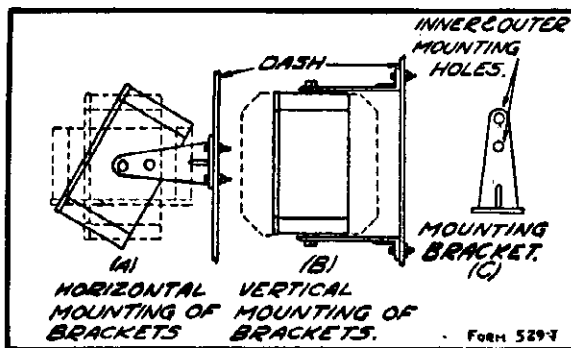

Fig. 5—Method of Mounting Speaker
The speaker-"B" eliminator is mounted on the back of the dash by means of two brackets, as shown in Fig. 5. Usually the space available will govern the location of the speaker and position of it on the mounting brackets. However, the matter of acoustics should be given careful consideration. One of the most desirable positions from the standpoint of
acoustics is that shown by the solid lines in Fig. 5 (A). In this position the sound waves travel in the most direct lines toward the listener. After the
After the position of the speaker is decided on, drill the four $\frac{5}{16}$ " holes required for the bracket mounting bolts. A template for these holes is supplied with the receiver. The holes are arranged in a rectangle. The centers of the holes, the small dimension are $2\frac{3}{8}$ " apart and the long dimension 10" apart. In Fig. 5 is shown how the brackets can be mounted horizontally (A) or vertically (B), and the different positions in which the speaker itself can be placed. There are two holes in each bracket as shown in Fig. 5 (C) which determine the distance of the speaker box from the dash. The grilled portion of the box at the front should face the listener.